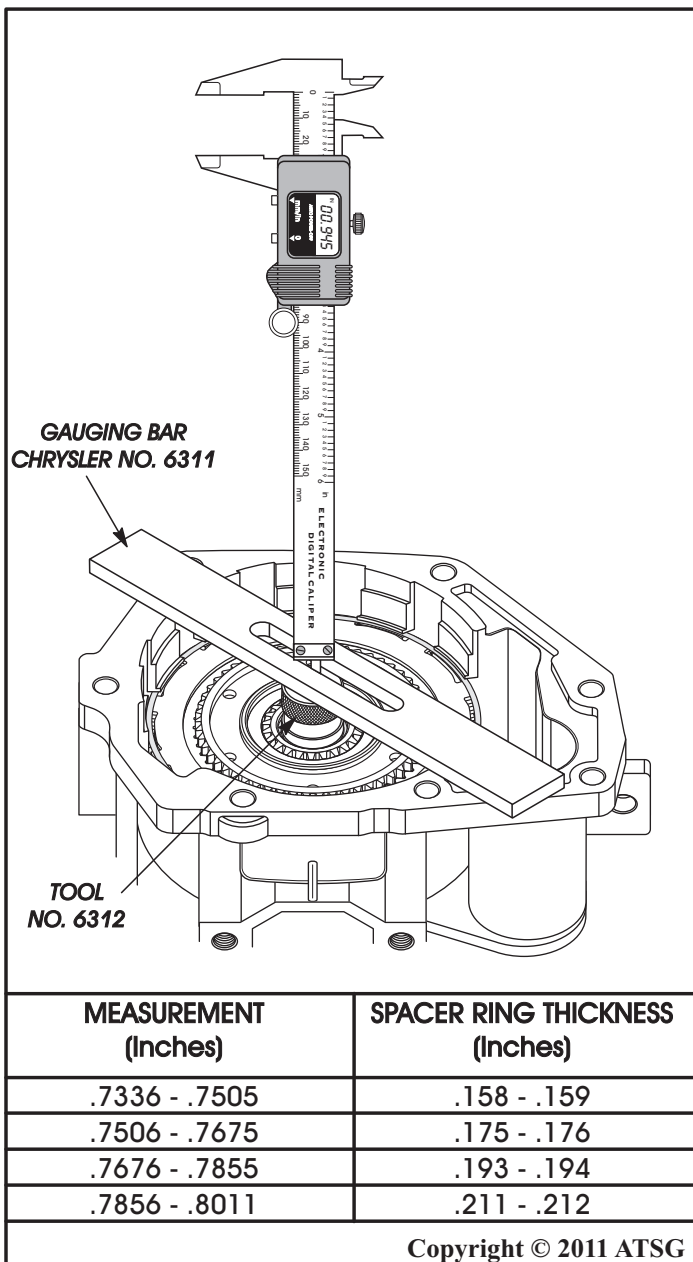

Figure 235
50. Position the gauge bar 6311 across the face of overdrive housing, as shown in Figure 235.
51. Zero your dial caliper and extend sliding scale of dial caliper downward through gauge bar until scale contacts end of gauge 6312, as shown in Figure 235.
53. Select proper thickness end-play spacer from the spacer chart in Figure 235, based on the distance measured.